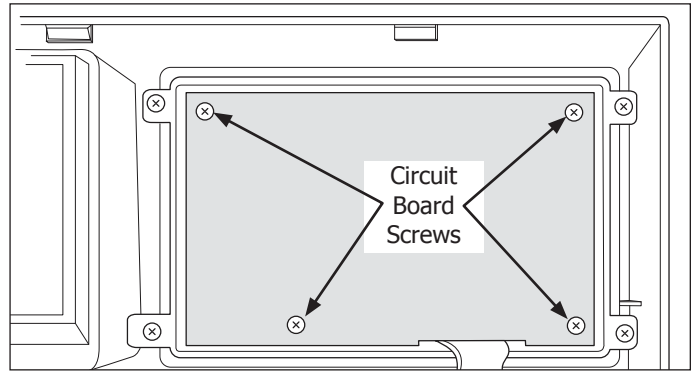

Figure 4-58.
5. Remove the user interface board by extracting the 4 screws securing the board to the housing. (See Figure 4-58)